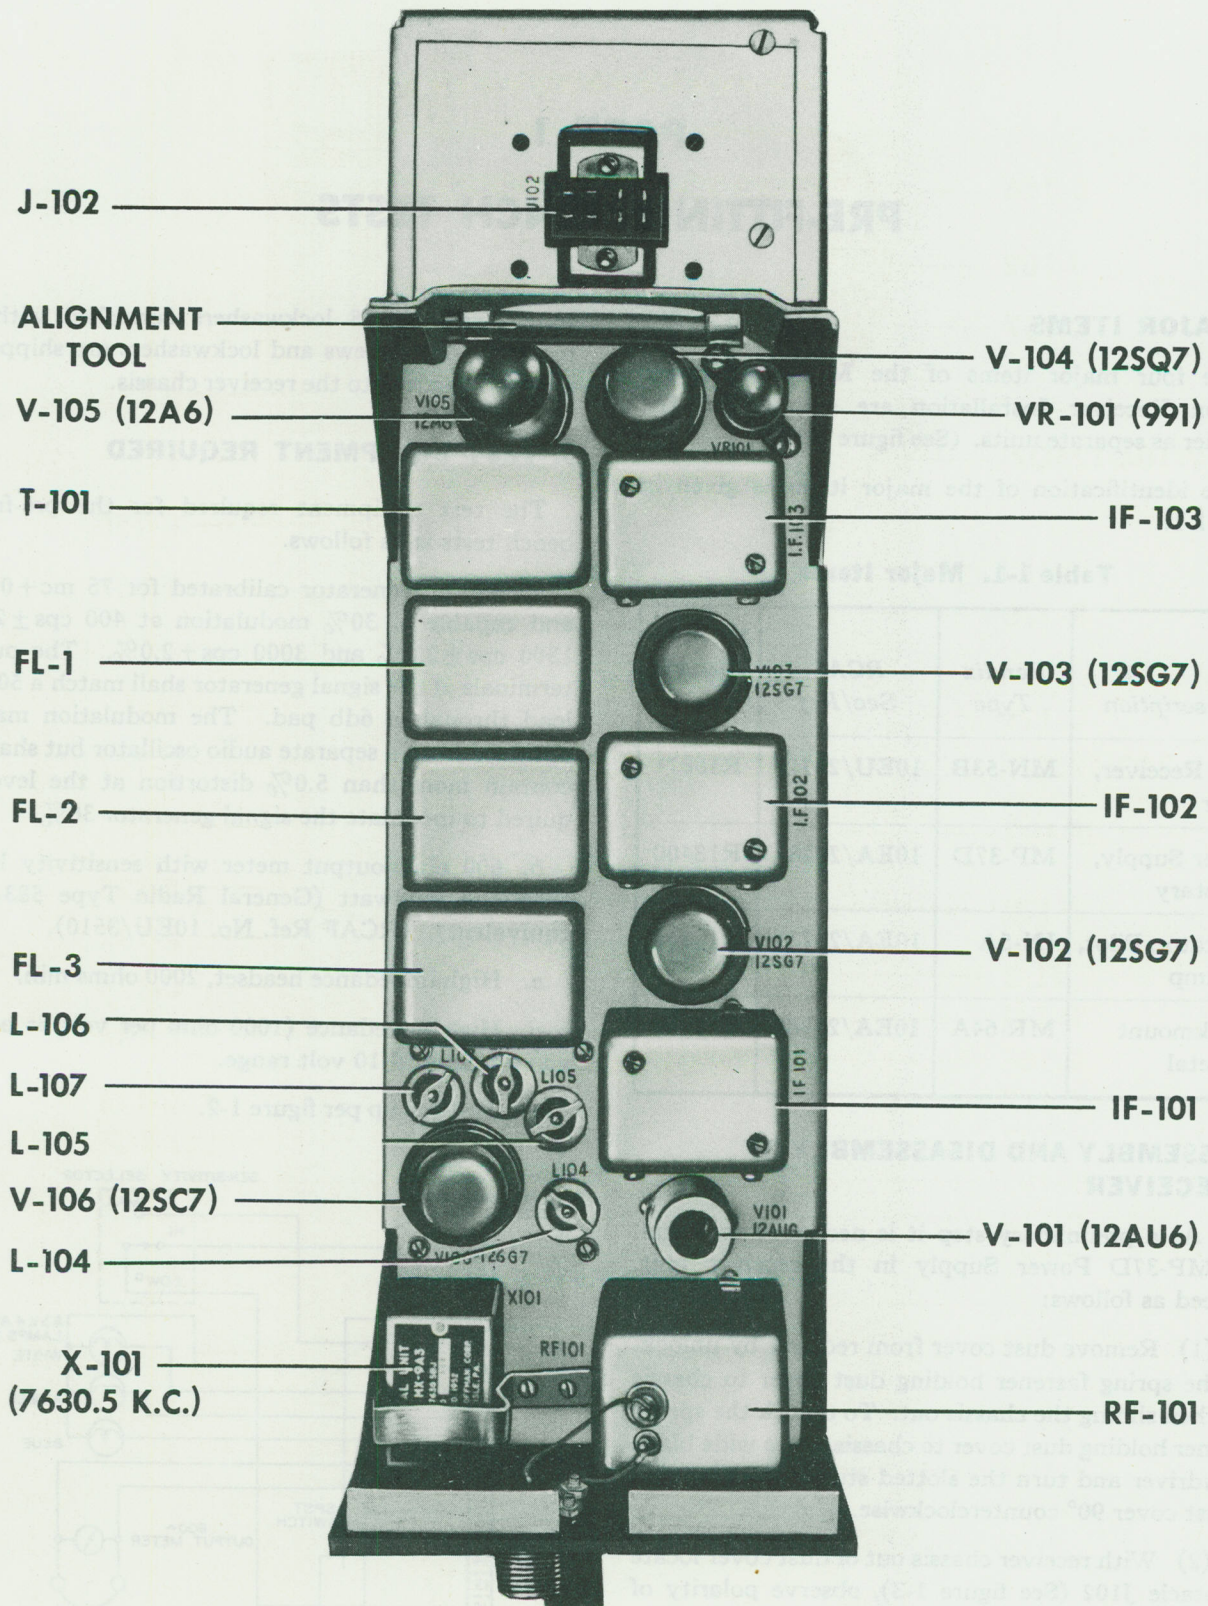

Figure 1-3. Type MN-53B Marker Receiver Chassis, Top View
(1) Remove dust cover from receiver by unlocking the spring fastener holding dust cover to chassis and then sliding the chassis out. To unlock the spring fastener holding dust cover to chassis, use a wide blade screwdriver and turn the slotted stud located at rear of dust cover 90° counterclockwise.
(2) With receiver chassis out of dust cover locate receptacle J102 (See figure 1-3), observe polarity of J102 and plug in Power Supply MP-37D in J102. The four tapped holes in the mounting bracket of the power supply will then match four clearance holes in the chassis. The assembly is completed by fastening the power supply to the chassis with the four No. 8-32
(1) Set SENSITIVITY SELECTOR switch on test set-up to "MAX" position and set the signal generator to $75 \pm 0.01\%$ mc with 30% modulation at 400 cps.
(2) Adjust the signal generator attenuator to give 3.5 a-c volts across the BLUE lamp.
(3) Divide the attenuator reading by 1.6 and reduce the attenuator setting to this quotient.
(4) Adjust expander control R138 (See figure 1-3) until the voltage across the BLUE lamp is 1.5 a-c volts.
(5) Repeat procedures 2, 3, and 4 until a ratio of 1.6 is obtained without any additional adjustment of R138.
(1) Set SENSITIVITY SELECTOR switch on test set-up to "HI" position.
(2) Adjust signal generator to give an output of 300 microvolts at 75 mc with 30% modulation at 400 cps. Adjust R129 (See figure 1-3) to produce 2.0 a-c volts across the BLUE lamp. A 400 cycle tone shall be heard in the headset.
(3) Increase the signal generator output to 0.1 volt. The voltage across the BLUE lamp shall then be 4.0 a-c volts min., 6.0 a-c volts max.
(4) Set SENSITIVITY SELECTOR switch on test set-up to "LOW" position, set the signal generator output to 2000 microvolts and adjust R128 (See figure 1-3) to produce 2.0 a-c volts across the BLUE lamp.